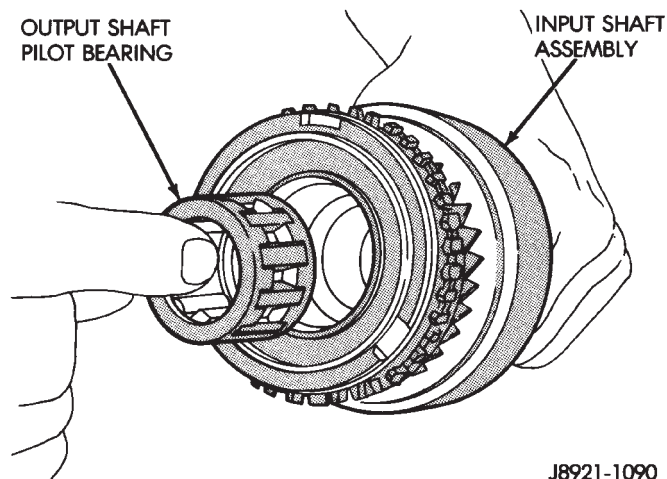

Fig. 111 Remove Output Shaft Pilot Bearing
(1) Remove input shaft and output shaft pilot bearing from output shaft (Fig. 111), if necessary.